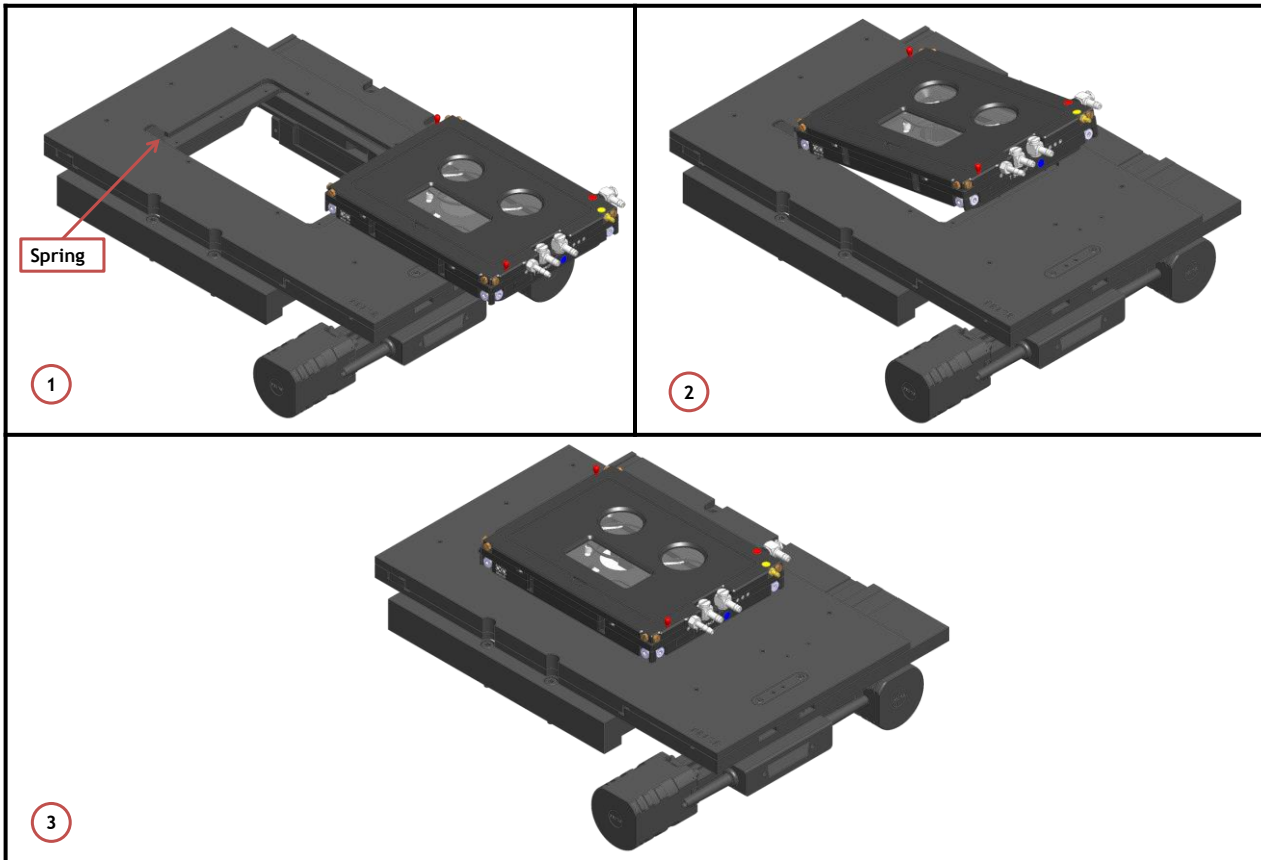

Figure 17. Connecting the Chamber with XY Stage
H101-PRIOR H117 fits on the XY Stage without any screws. To fix the chamber on the stage, follow the steps shown in Figure 17.
1. Place the chamber on the stage (See Image 1 of Figure 17).
2. Tilt the chamber and slide it towards the spring until it snaps in place. (See Image 2 of Figure 17).
3. Image 3 of Figure 17 shows the chamber installed on the XY Stage.